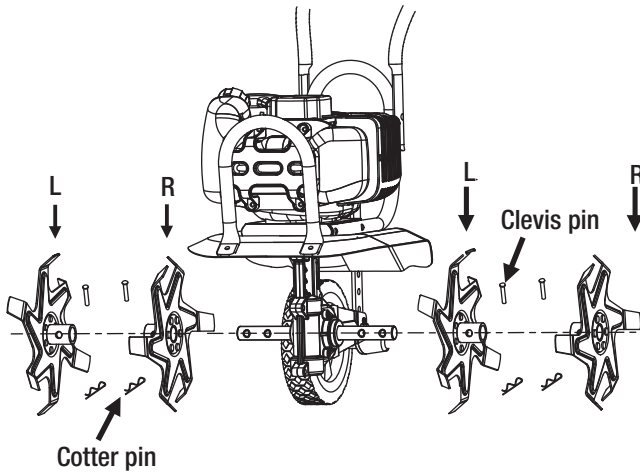

Figure 3
- Install the tines in turn as shown below and secure them Clevis and Cotter Pin. See Figure 3.